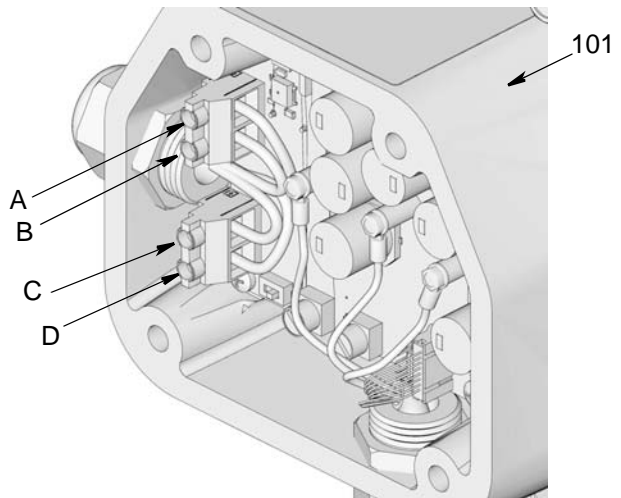

FIG. 3
7. Tighten front mount connector (1) securely. Then torque to 7.4 to 8.4 ft. lbs (10 to 11.4 N•m).
8. Connect wire leads to power input (A and B) and pump signal connections (C and D) (FIG. 3). Torque to 5.5 to 7 in.-lbs (0.62 to 0.79 N•m).